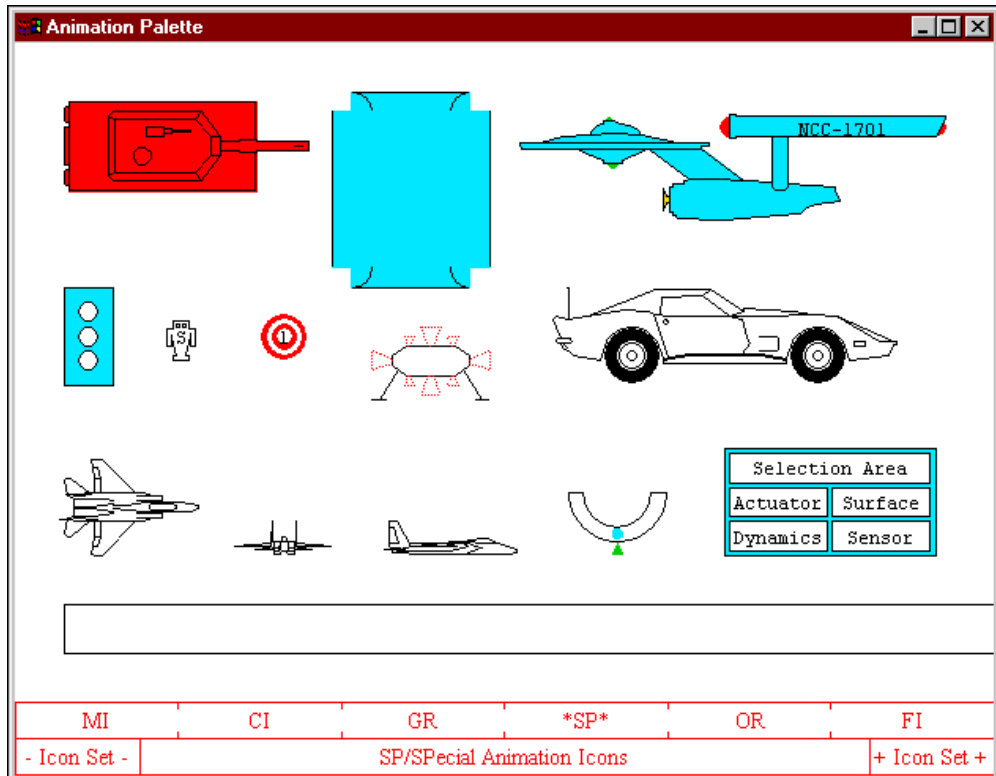

Figure 2-9. Special Animation Icons (SP Palette)
- Special Animation Icons (SP Palette)**—The **Special Animation** palette, shown in Figure 2-9, offers a selection of special purpose drawings used in demonstration exercises, such as a battle tank, playing card, traffic light, robot, target, lunar lander, 1973 Corvette, Jet Fighter (top, front, and side views), a turn/slip indicator, and a selector panel (Actuator, Surface, Dynamics, and Sensor).